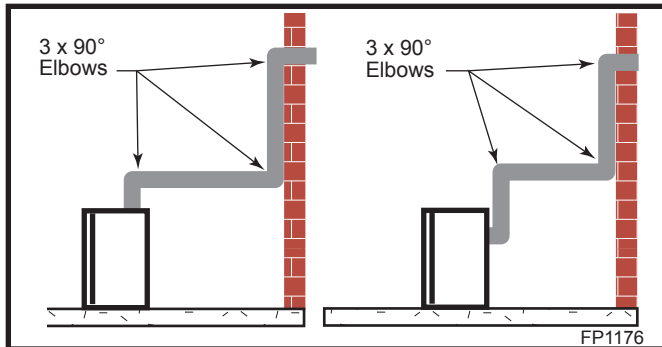

Fig. 28 Maximum three (3) 90° elbows per installation.
- The maximum number of 90° elbows per side wall installation is three (3). (Fig. 28)